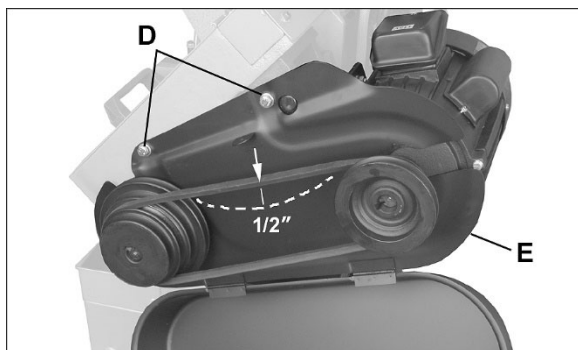

Figure 5-4: installing belt and pulley cover
- Push up motor and tighten tilt locking handle (C) to tension v-belt. Correct tension is achieved when finger pressure midway between the two pulleys causes approximately 1/2" deflection. See Figure 5-4.
- Remove two hex cap bolts and washers (D, Figure 5-4).
- Position belt cover (E, Figure 5-4) around pulley shafts and attach to saw with the two bolts and washers.